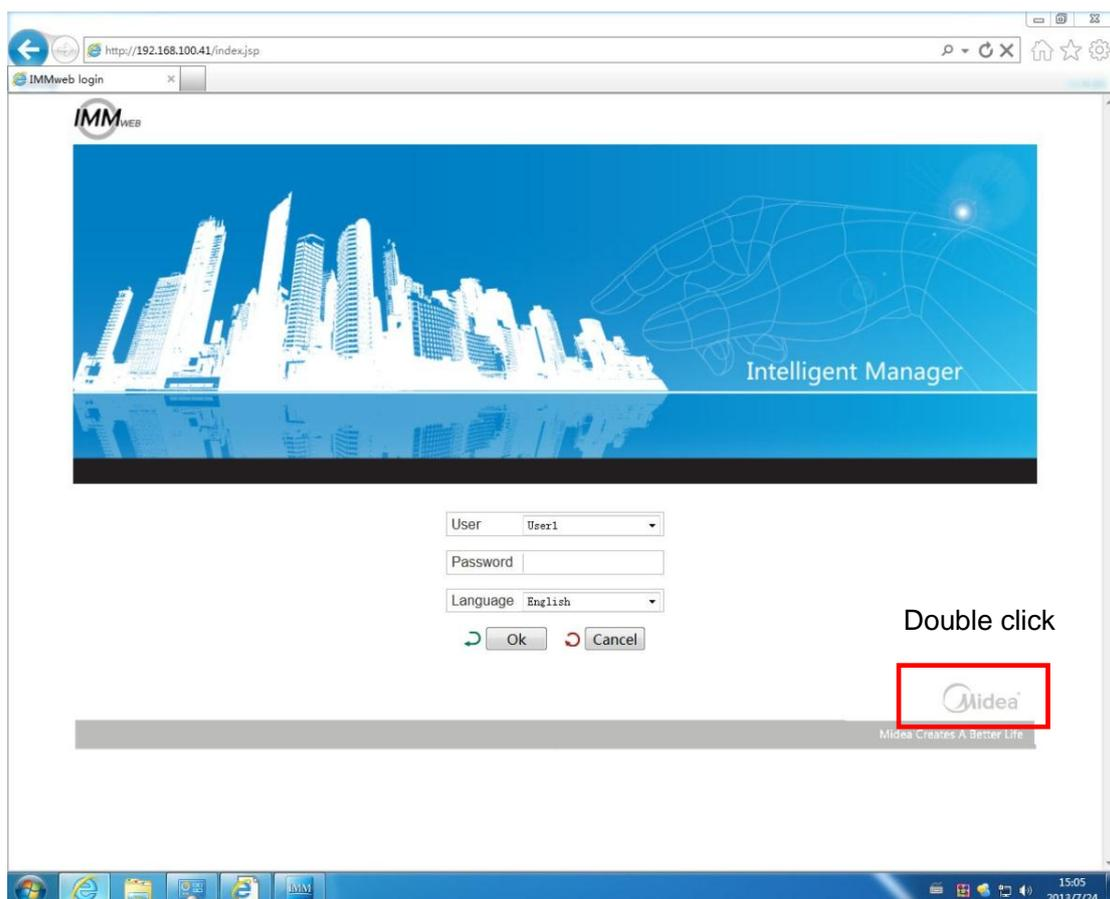

Fig.1
- 1). Double-click logo on the page , it will display the login frame (figure 1 and figure 2), and the default user name is "adm".